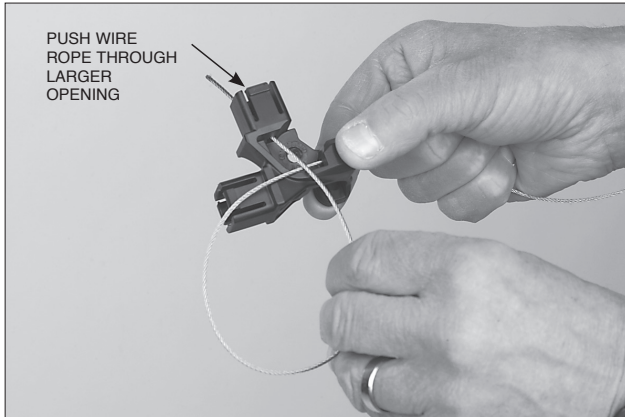

FIGURE 5-72
3. Pull the slack, make a loop and insert the rope through the larger opening in the bearing area. See Figure 5-72.